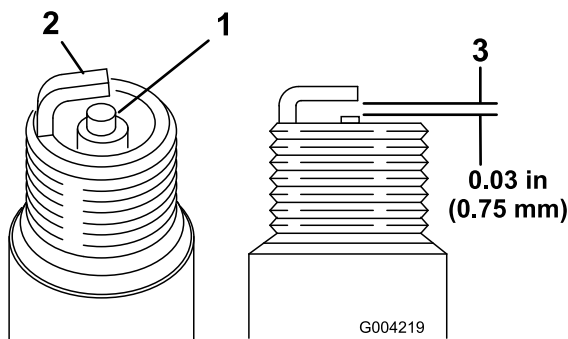

Figure 57
1. Look at the center of the spark plug (Figure 57).
2. Check the gap between the center and side electrodes (Figure 57).
3. Bend the side electrode (Figure 57) if the gap is not correct.